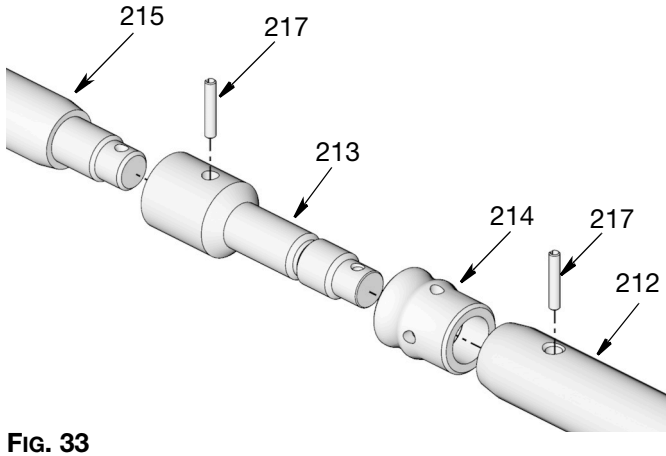

FIG. 33
21. Use a punch and hammer to tap out the pins (217) holding the rod sections together (FIG. 33). Use your hands to unscrew the shovel rod (215) and spacer rod (212) from the piston (213).